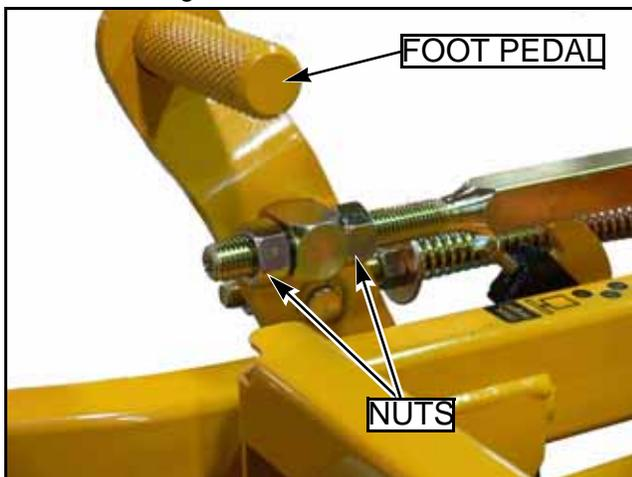

FIG. 36
7. Loosen the two nuts on the front of height indicator so that the foot pedal is free FIG. 36.
12. While keeping the chain tight, tighten the nuts against the deck lift block on the height indicator rod FIG. 36.